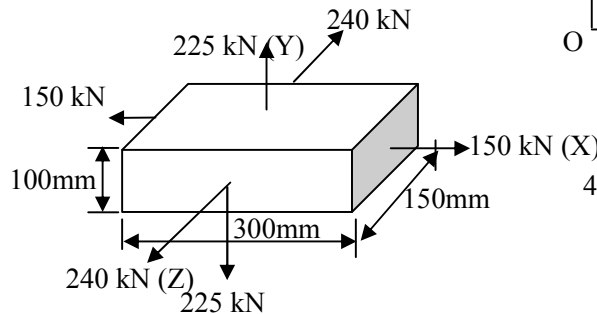

Fig. 11 Que 5(c)
- (c) A rectangular block of size 300mm x 150mm x 100mm is subjected to forces as shown in **Fig. 11**. If $E = 75 \text{ GPa}$ and poisson's ratio is 0.25, calculate (i) Change in volume (ii) Modulus of rigidity and (iii) Bulk modulus. **06**